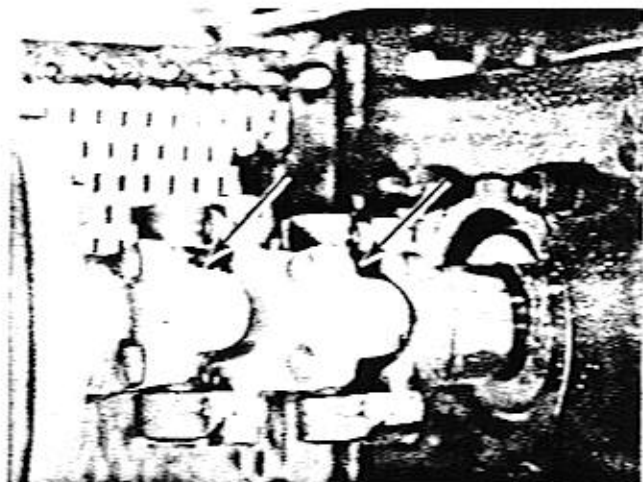

Figure 10-1
Remove access panels as required to reach the Propulsion Drive U-Joints. Lubricate two (2) fittings with two (2) shots of MPG-EP grease. See Figure 10-1.